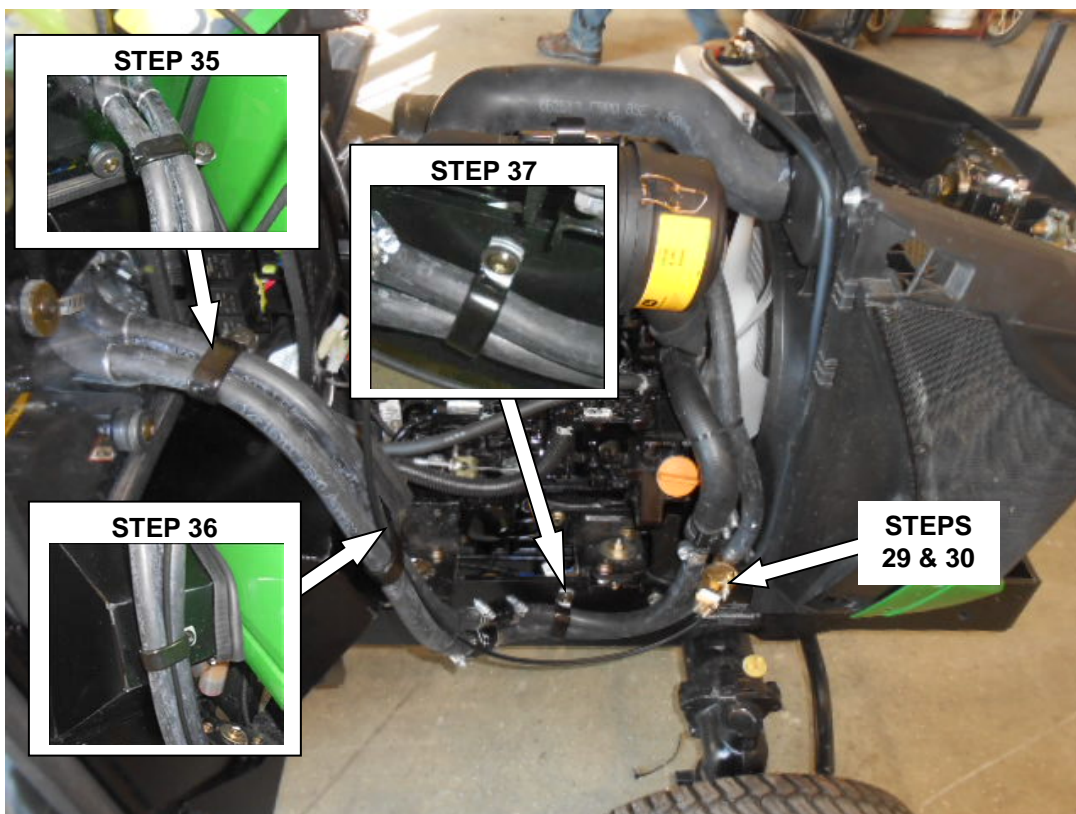

Figure 6
29. Install push/pull cable (2) from inside of RH front window. Route loop end of cable to shut-off valve (**Figure 6**). Secure to window with hardware supplied with push/pull cable.
30. Connect loop end of push/pull cable to shut-off valve and secure cable using hardware supplied with valve (**Figure 6**).
35. Measure 4 inches from front window and secure heater hoses together using (**Figure 6**);
- (1) ¼" hex flange nut
36. Secure heater hoses and push/pull cable to front of RH pedal pocket. A ¼" hole will need to be drilled into the pedal pocket panel as shown in (**Figure 6**), if hole is not present. Secure using;
37. Secure heater hoses to frame location as shown in (**Figure 6**). Use existing hole already in the frame. Secure to frame using;